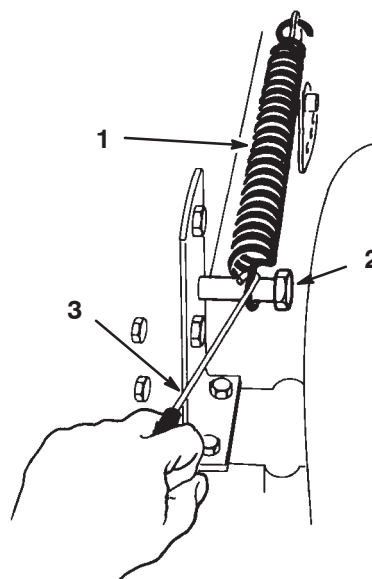

Figure 43
6. Remove the lift assist spring between the mower right side lift bracket and the retaining bolt (Fig. 43).